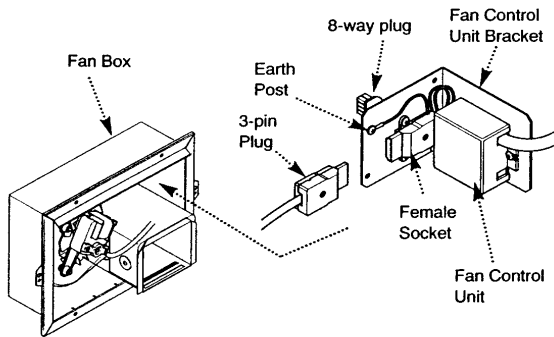

Fig. 76
5. Undo the screws securing the fan control unit bracket to the fan box. Disconnect the 3-pin plug and socket and draw the bracket forwards (Fig. 76).
6. Undo the earth screw from the bracket and remove the screws retaining the plug and fan control unit to the bracket (Figs. 76 & 77).